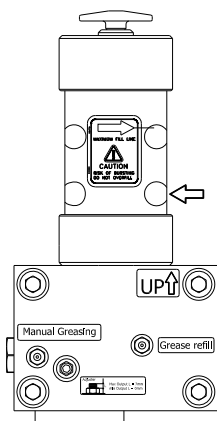

Fig. 6-1 Grease Level Sight Windows - Early
The cartridge is designed so that minimum and maximum grease levels are visible through the round windows located in the housing (Early). Refer to Figure 6-1.
- Observe lubricant level inside the cartridge. Never allow level to fall below the minimum level mark Fig. 6-1. Prompt replenishment of cartridges is required to preserve uninterrupted delivery.